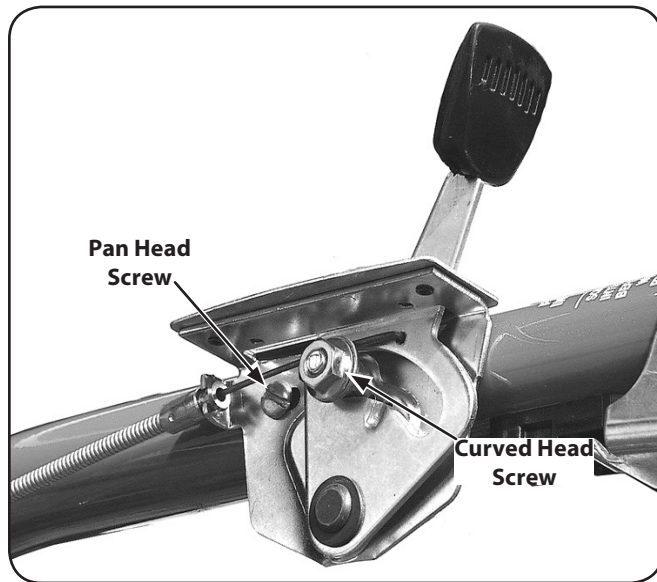

Figure 3-13
1. Run the throttle cable up the inside edge of the right handlebar and position the lever as shown in Figure 3-13.
2. From the outside of the handlebar, insert the curved head screw, through the handlebar and the center hole in the throttle lever mounting bracket. See Figure 3-13.